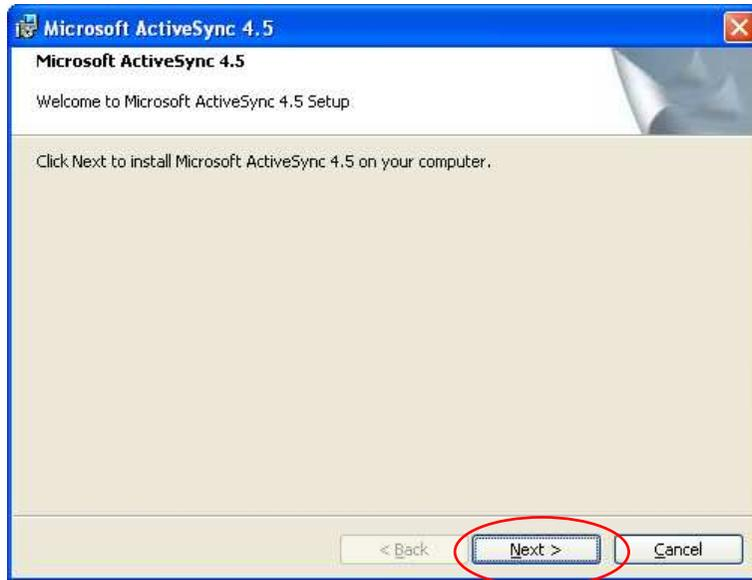

Figure 92:
6. When the next screen appears, select 'Next' (Figure 92).